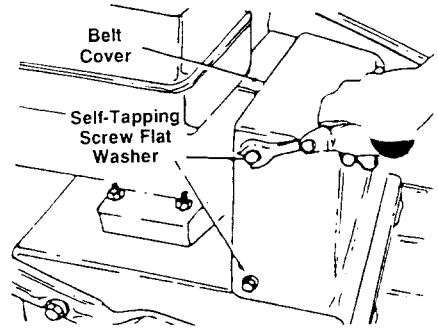

FIGURE 27
- Remove the plastic belt cover on the front of the engine by removing three self-tapping screws and flat washers. See figure 27.